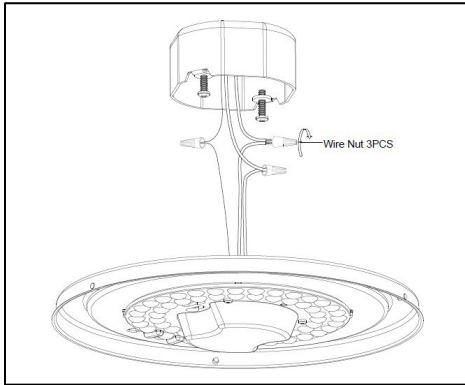

Figure 8
2. With the power turned off, hold the fixture housing assembly (2) firmly and connect the copper ground wire from the fixture to the bare copper wire from the junction box using a wire nut (5) (if your housing wiring does not include a ground wire, consult your local electrical code for approved grounding method.) (See Figure 8)
3. Use wire nuts (5) to connect the black fixture wire to the black power supply wire and white fixture wire to the white power supply wire. (See Figure 8).